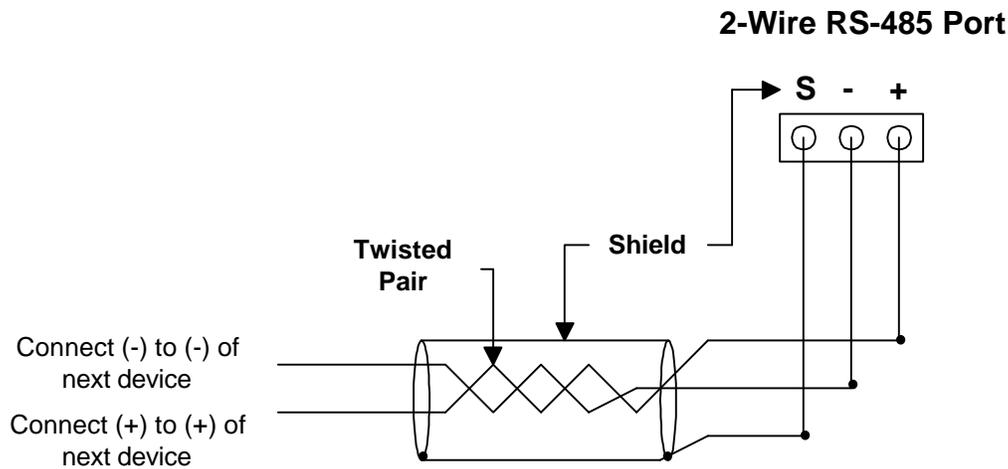

Figure 5.6: 2-Wire RS-485 Port Detail
- Avoid both “star” and “tee” connections (see Figure 5.6). No more than two cables should be connected at any one point on an RS-485 network, whether the connections are for devices, converters or terminal strips.